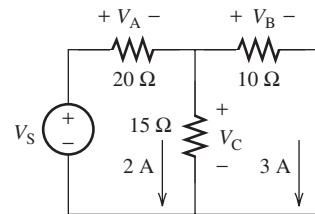

FIGURE P2.44 Circuit for Problem 2.44.
2.44 (H) Find V_A , V_B , V_C , and V_S in Figure P2.44.